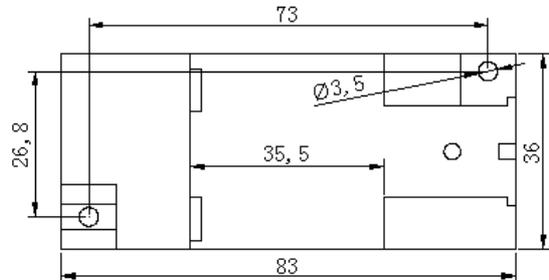

Fig.3 Dimension drawing of external installation
DIN35 rail mounting and screw mounting, the installation dimension is shown in Figure 3(in mm).
- ①The transducer fixed on the side of the card slot and hook on the mounting rail;
- ②Pull the spring pin down;
- ③Clip the transducer mount on the mounting rail;
- ④Release the spring pin and clip the transmitter on the mounting rail.
- ①3mm diameter hole in the fixed plate according to the screw hole position shown in Fig. 3;
- ② Use the screw Φ3 to insert into hole and secure it.